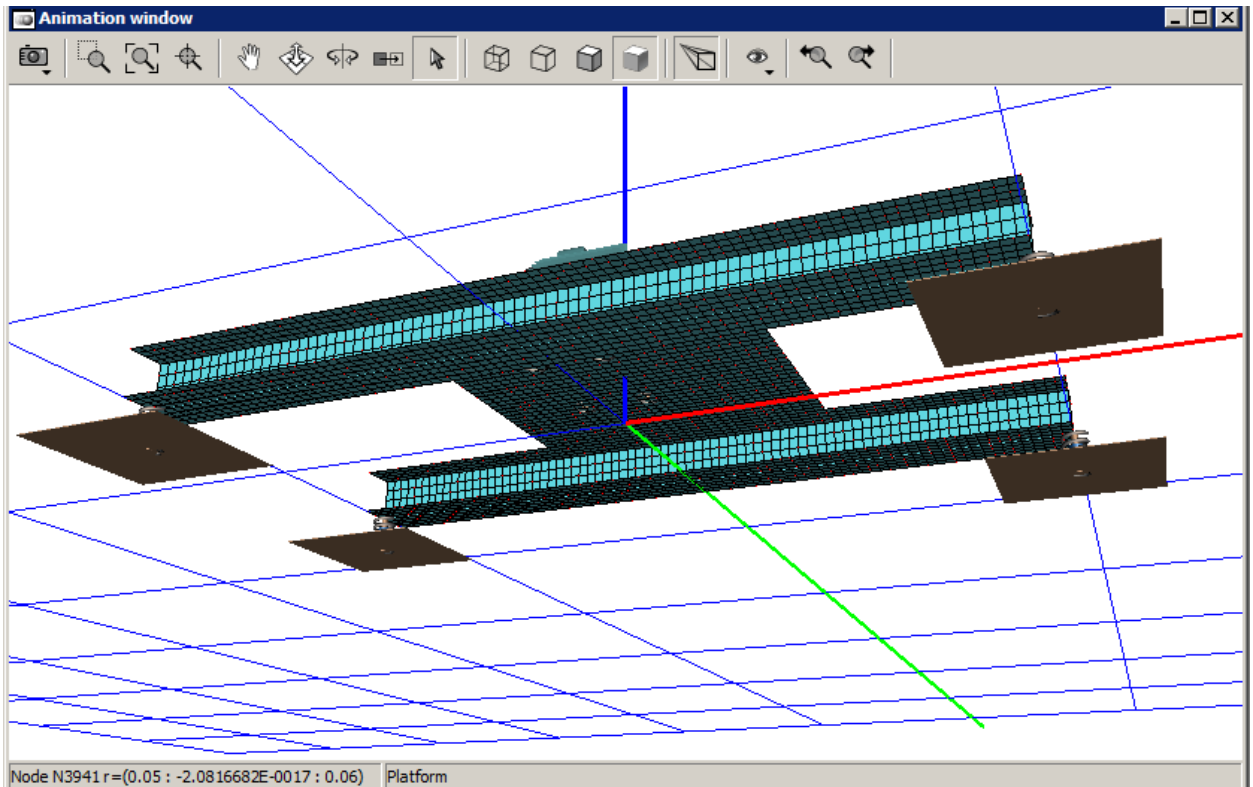
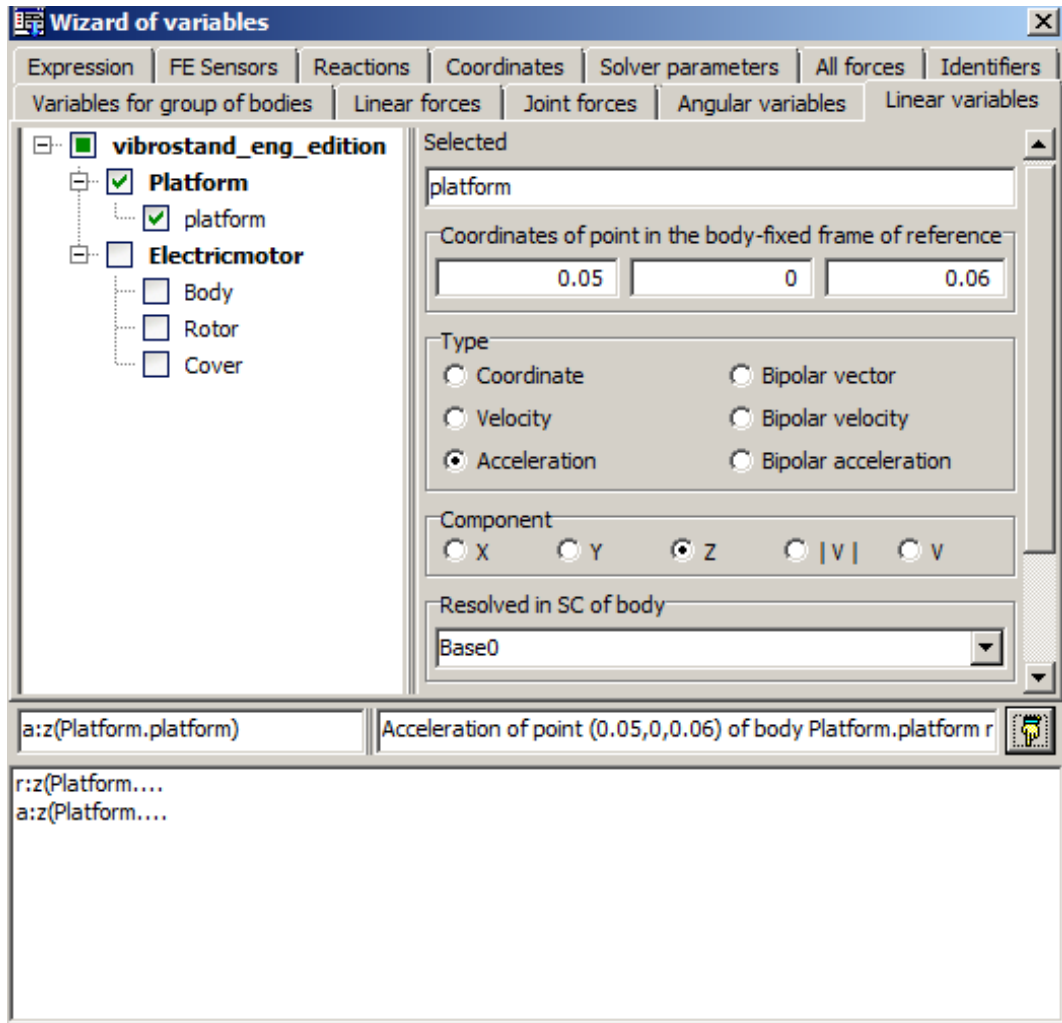

Figure 2.58.
Figure 2.59.
5. Select **Wizard of variables** and create two variables for calculation Z projections of position and acceleration of the node 3941 with approximate coordinates (0.05; 0; 0.06), see Figure 2.58, Figure 2.59.
**Note.** You can plot position and acceleration of any node you want. The only information you need is coordinates of the node. To get them point the mouse to the node in an animation window and you can see its coordinates in the status bar of the window, see Figure 2.58.